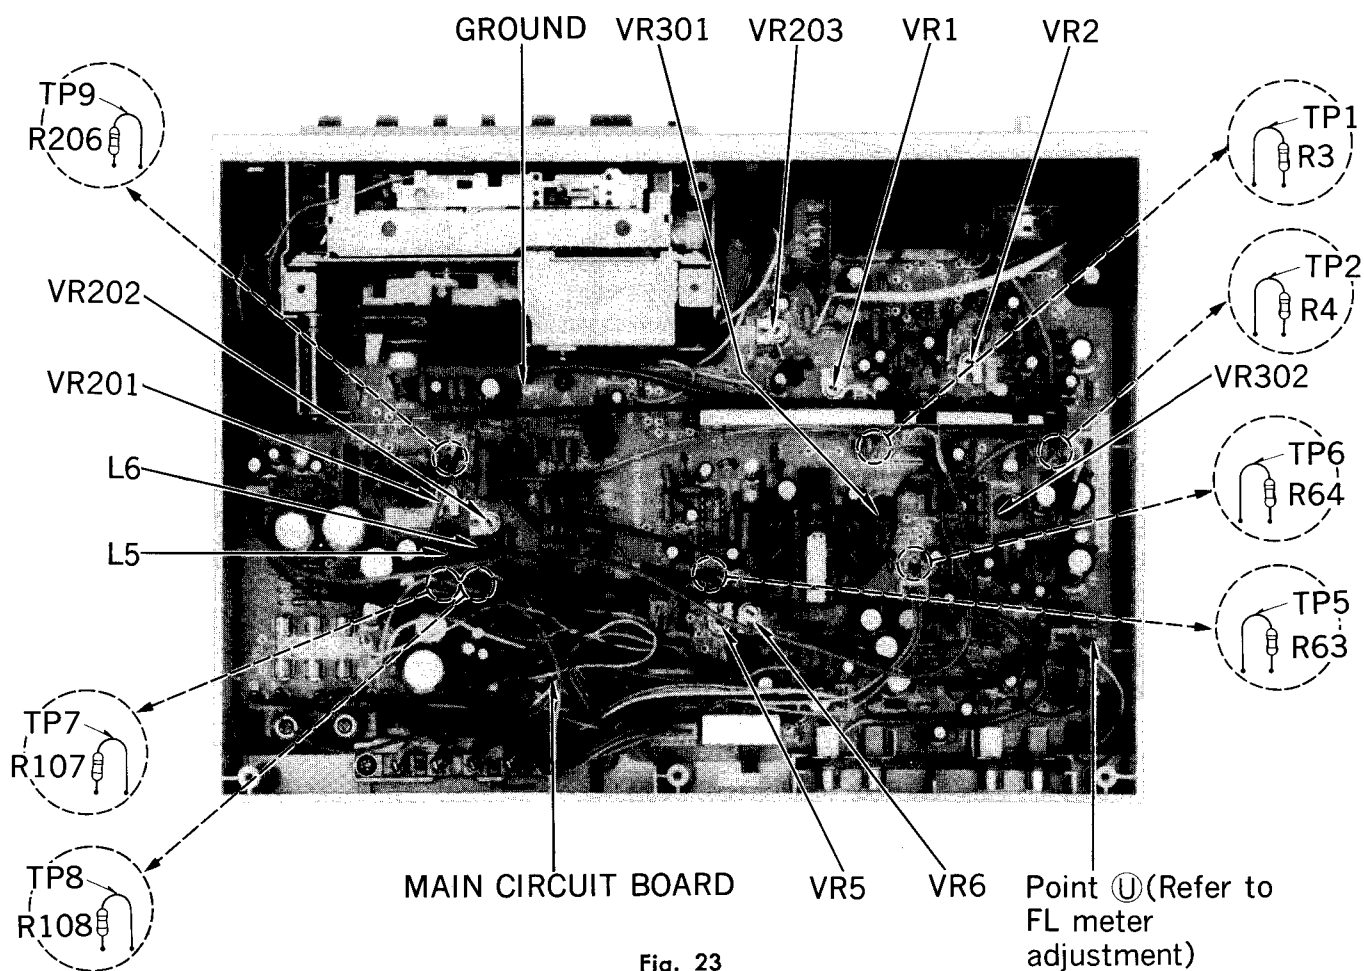
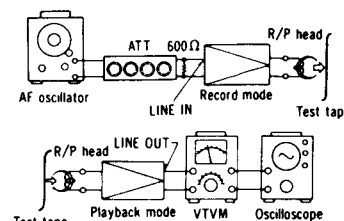

Fig. 23
Fig. 38
E Playback gain Condition: * Playback mode * Normal tape mode * Output level control ... MAX Equipment: * VTVM * Oscilloscope * Test tape ... QZZCFM	1. Test equipment connection is shown in fig. 32. 2. Playback standard recording level portion on test tape (QZZCFM 315 Hz), and using VTVM measure the output level at LINE OUT jack. 3. Make measurement for both channels. Standard value: around 0.7 V Adjustment 1. If measured value is not standard, adjust VR1 (L-CH), VR2 (R-CH) (See fig. 23). 2. After adjustment, check "Playback frequency response" again.
⊕ Overall frequency response Condition: * Record/playback mode * Normal tape mode * Fe-Cr tape mode * CrO₂ tape mode * Metal tape mode * Input level controls ... MAX * Output level control ... MAX * Standard input level MIC -72 ± 3.5 dB LINE IN ... -24 ± 3.5 dB Equipment: * VTVM * AF oscillator * ATT * Resistor (600Ω) * Test tape (reference blank tape) ... QZZCRA for Normal ... QZZCRX for CrO₂ ... QZZCRY for Fe-Cr ... QZZCRZ for Metal	Note: Before measuring and adjusting, make sure of the playback frequency response (For the method of measurement, please refer to the playback frequency response). 1. Test equipment connection is shown in fig. 38. 2. Place the test tape (QZZCRA) in the cassette holder. 3. Set UNIT into record mode, and normal tape mode. 4. Supply 1 kHz signal from AF oscillator through ATT to LINE IN. 5. Adjust ATT so that input level is -20 dB below standard recording level (standard recording level = 0 VU). 6. At this time, LINE OUT level indicates 0.07 V. 7. Record each frequency 50 Hz, 70 Hz, 200 Hz, 600 Hz, 1 kHz, 2 kHz, 8 kHz, 10 kHz, and 12 kHz (14 kHz for CrO₂, Fe-Cr and Metal). 8. Playback and express in dB the difference between playback output level of each frequency based on playback output level of 1 kHz. 9. Make sure that the measured value is within the range specified in the overall frequency response chart (shown in fig. 30). 10. Change test tape to Fe-Cr (QZZCRY), CrO₂ (QZZCRX) and Metal (QZZCRZ). 11. Set UNIT into each tape mode. 12. Measure as same as manner from step (3) to step (8). 13. Make sure that the measured value is within the range specified in the overall frequency response chart for Fe-Cr, CrO₂ and Metal tape shown in fig. 31. Adjustment-using bias current 1. When the frequency response between the middle and high frequency range becomes higher than the standard value, as shown by the solid line in fig. 41 increase, refer to bias current adjustment. 2. When it becomes lower, as shown by dotted line, refer to bias current adjustment. Bias current adjustment 1. Test equipment connection is shown in fig. 42. 2. Set UNIT into record mode, and normal tape mode. 3. Read voltage on VTVM and calculate bias current by following formula: $\text{Bias current (A)} = \frac{\text{Value read on VTVM (V)}}{10 (\Omega)}$ Standard value: around 350μA (Normal tape mode) 4. If measured value is not within standard, adjust VR201 (L-CH) and VR202 (R-CH). 5. Set the tape selector to each position. 6. Make sure that the measured value is within standard. Standard value: around 370μA (Fe-Cr tape mode) around 440μA (CrO₂ tape mode) around 700μA (Metal tape mode)
① Overall gain Condition: * Record/playback mode * Normal tape mode * Input level controls MAX * Output level control ... MAX * Standard input level - MIC -72 ± 3.5 dB - LINE IN ... -24 ± 3.5 dB Equipment: * VTVM * AF oscillator * ATT * Oscilloscope * Resistor (600Ω) * Test tape (reference blank tape) ... QZZCRA for Normal	1. Test equipment connection is shown in fig. 38. 2. Place UNIT into record mode, and normal tape mode. 3. Supply 1 kHz signal (-24 dB) from AF oscillator, through ATT to LINE IN. 4. Adjust ATT until monitor level at LINE OUT becomes 0.7 V. 5. Using test tape, make recording. 6. Playback recorded tape, and make sure the value at LINE OUT on VTVM becomes 0.7 V. 7. If measured value is not 0.7 V, adjust VR5 (L-CH), VR6 (R-CH) (See fig. 23). 8. Repeat from step 2.
② Fluorescent meter Condition: * Record mode * Input level controls MAX * Output level control ... MAX Equipment: * VTVM * AF oscillator * ATT * Resistor (600Ω)	1. Test equipment connection is shown in fig. 38. 2. As shown in fig. 43, connecting the base of Q302 (Point ①, see fig. 23 on page 6) and ground stops the oscillation of the astable multivibrator comprising Q302 and Q303. 3. Supply 1 kHz signal (-24 dB) to the LINE IN jack, then press the record button. 4. Adjust the ATT so that the output level at LINE OUT jack becomes 0.7 V (The input level at this condition is termed the standard input level). 5. Adjustment at "-20 dB". A. Adjust the ATT so that input level is -20 dB below standard recording level. B. Adjust VR301 so that the -20 dB segment lights up in the $-20 \text{ dB} \pm 0.8 \text{ dB}$ range (L-CH ONLY) (See fig. 44). 6. Adjustment at "0 dB". A. Adjust the ATT so that the output level at LINE OUT jack becomes 0.7 V. (The input level at this condition is termed the standard input level.) B. Adjust VR302 so that the $+1$ dB segment lights up in the $0 \pm 0.2 \text{ dB}$ range of the standard input level (See fig. 45). 7. Repeat twice between steps 5 and 6 above. 8. Adjust ATT and check that all segments light up when an input signal level is increased to 10 dB higher than the standard input level (See fig. 46).